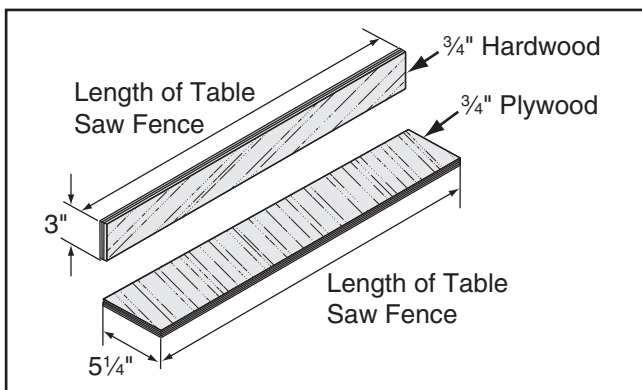

Figure 75. Auxiliary fence dimensions.
1. Cut a piece of $\frac{3}{4}$ " thick plywood $5\frac{1}{4}$ " wide and as long as your table saw fence; cut a piece of $\frac{3}{4}$ " thick hardwood 3" wide and as long as your table saw fence, as shown in **Figure 75**.